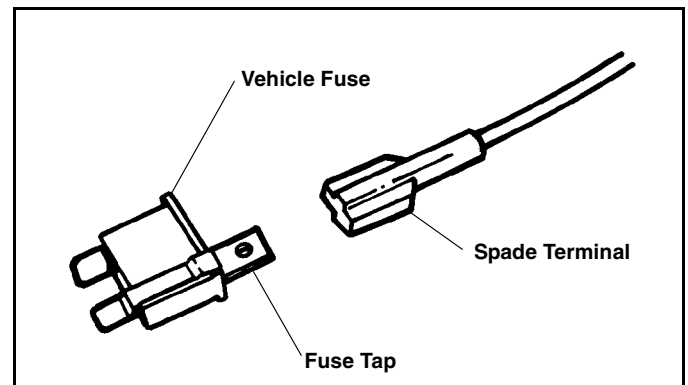

Figure 1-12
12. Using a test probe, determine the fused "Dead/OFF" side of the fuse. Remove the fuse and attach the A.T.O. fuse tap to that side of the fuse. (See Figure 1-12).